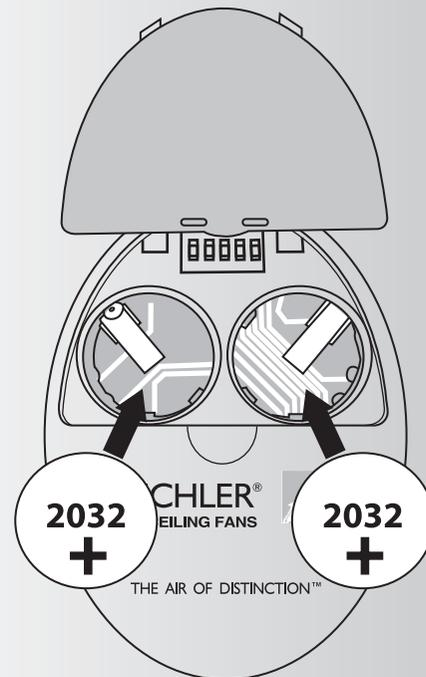

Fig. 20
Open the back of the Transmitter (figure 20)
2. Insert both batteries and make sure they are seated correctly in each recess with the Positive + sign facing up. Replace the battery cover. (Figure 20)